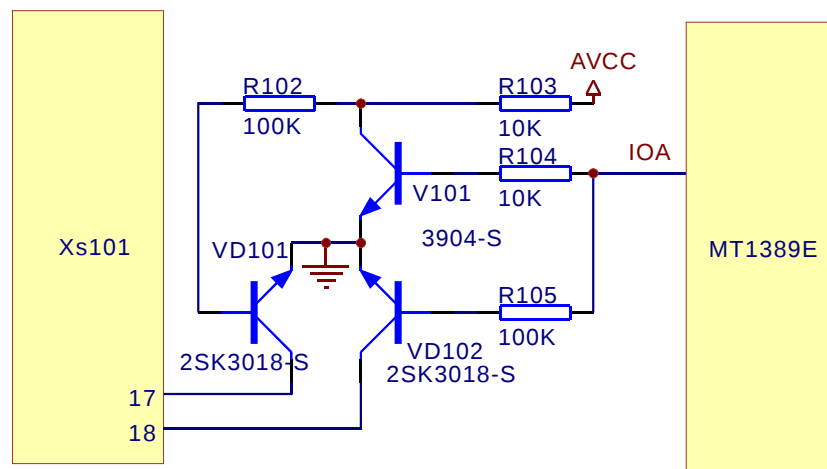

Figure 3.2.2.1 CD/DVD switch circuit
1. CD/DVD switch circuit is shown as in the following figure 3.2.2.1: